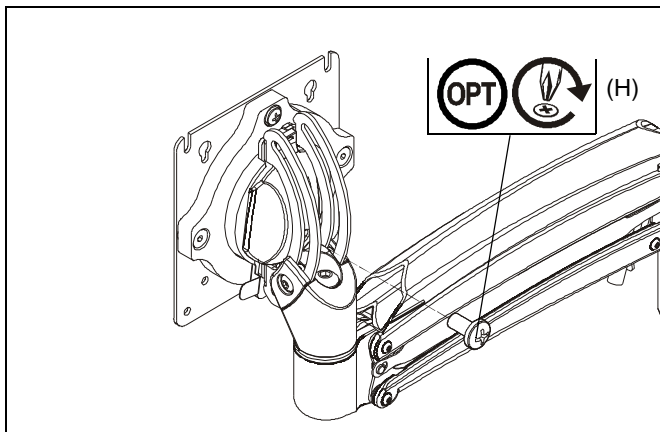

Figure 14
NOTE: In order to prevent display from being easily removed from mount using the quick release lever, install M4x4mm security screw (H) into lower hole on back of faceplate. (See Figure 14)